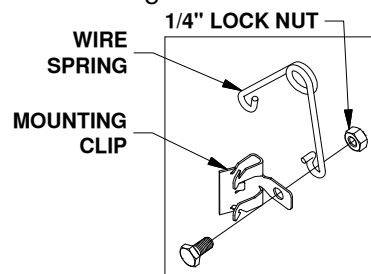
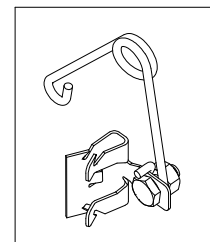

Figure C1: Leveling kit parts.
Figure C2: Assembled leveling kit.
1. **Assemble kit.** Locate the 1/4" cap screw and nut, along with the wire torsion spring and mounting clip. Pass the 1/4" cap screw through the mounting clip and the wire spring, as shown in Figure C1. Thread the 1/4" lock nut onto the 1/4" cap screw. Tighten the lock nut just enough that the spring will stay in place but will still be able to rotate around the bolt if needed, see Figure C2.